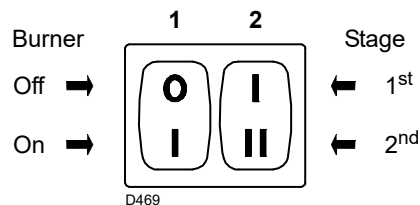

Fig. 21
- Start the burner by closing the control devices and with switch 1) (Fig. 21) in the "ON" position. The pump must rotate in the direction of the arrow marked on the cover.
- Stop the burner: switch 1) (Fig. 21) set to "OFF" and tighten the screw 3).